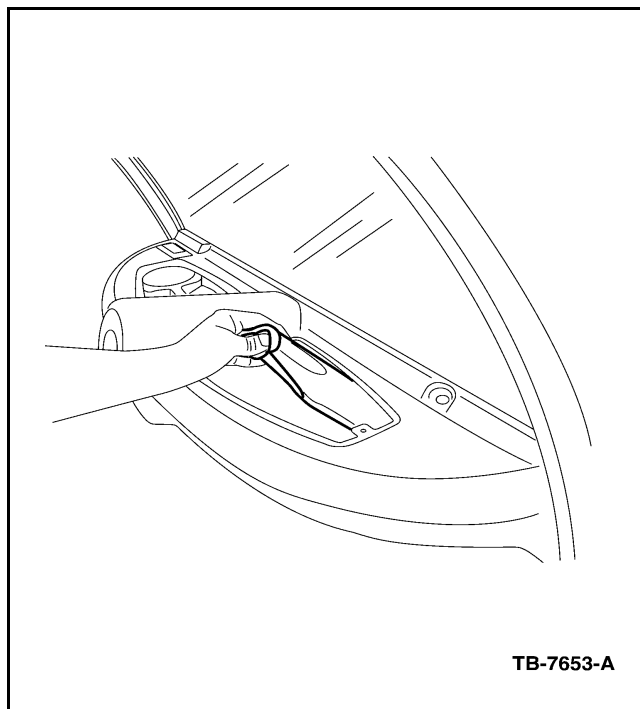

Figure 3 - Article 03-18-4
7. With the header rail clean, roll up the splash shield and insert it into the cup holder opening with the adhesive strip up (Figure 3).